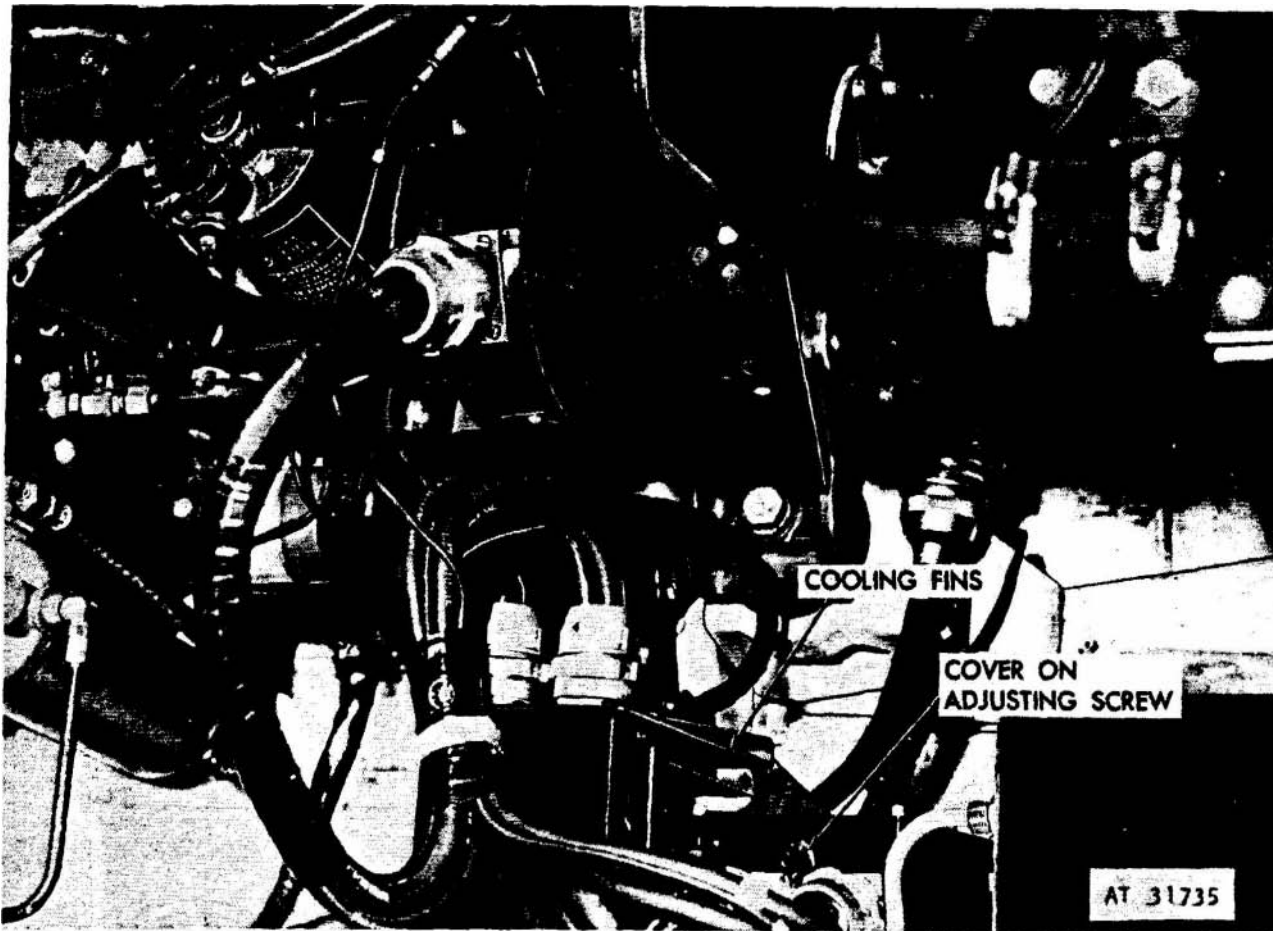

Figure 3-2. Rectifier and regulator, 100 ampere alternator kit.
b. *Rectifier.* The rectifier (fig 3-2) is a full-wave
type composed of six silicon diodes connected in a configuration which converts the three phase alternating current from the alternator to direct current. The unit is waterproof and is mounted on a support bracket on the wheelwell on the left side of the vehicle (fig 3-2). Air flow through the louvers of the engine compartment provide cooling for the rectifier fins.
c. Regulator. The regulator (fig 3-2) is a solid state hermetically sealed unit which contains a load relay that connects the generating system to the vehicle batteries when the master switch is turned on. At the same time, the fields of the alternator are connected to the batteries by the load relay for initial excitation. The regulator utilizes a carbon pile type voltage limiter to control the alternator field current thereby controlling the system output voltage. The voltage is adjusted externally by a
(1) Remove the cover plug (fig 3-2) located at the top of the regulator between the two receptacles. Turn the slotted shaft with a screwdriver. To increase the voltage, turn clockwise, to decrease the voltage, turn counterclockwise. The range of the adjusting control is approximately five volts. Adjust so that output voltage is maintained between 27-28 volts.